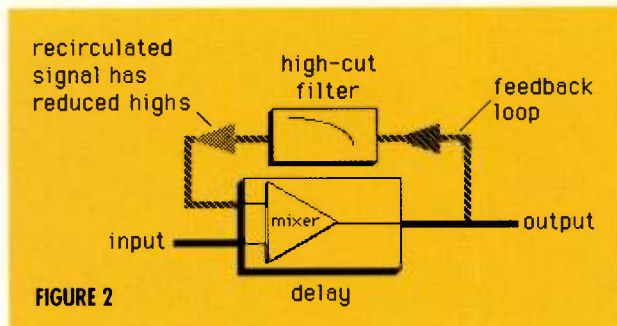

FIGURE 2
4. Use high-cut (lowpass) filtering in delay feedback loops. Each successive repeat with tape echo and analog delay units has progressively fewer high frequencies, due to analog tape’s limited bandwidth (fig. 2). If your multieffects can reduce high frequencies in the delay line’s feedback path, the sound will resemble tape echo rather than straight digital delay.